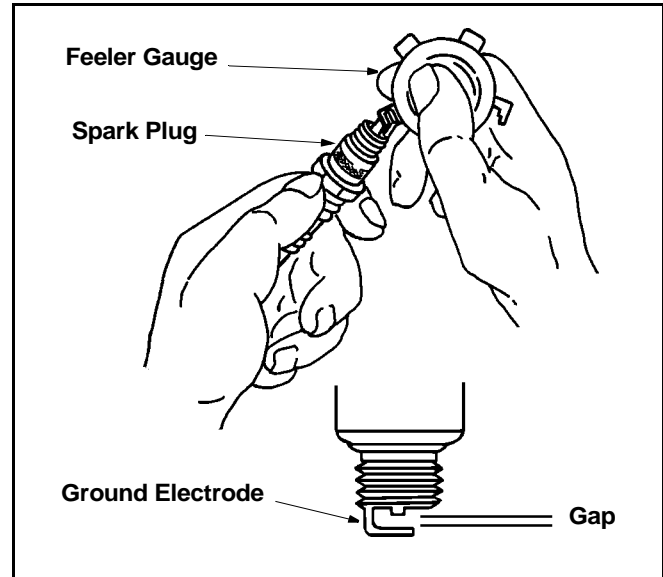

Figure 20
- Check the gap using a feeler gauge and adjust, if necessary, by carefully bending the ground electrode. See Figure 20. Set the spark plug gap to 0.75 mm (0.030 in.).